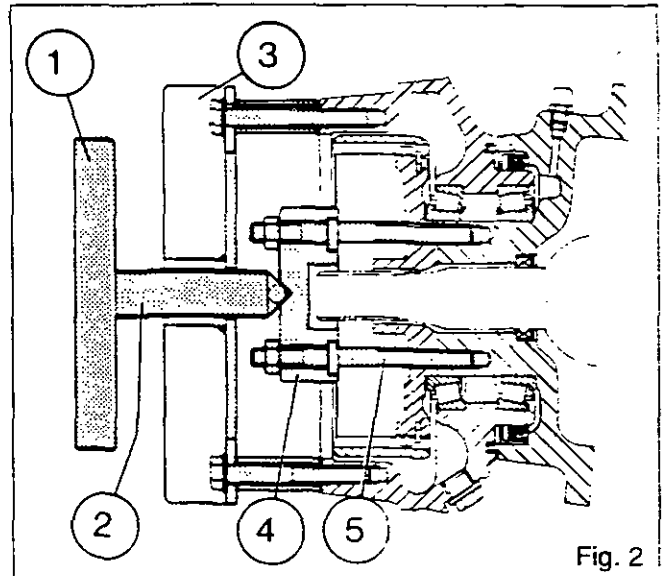

Fig. 2
30. Remove the circlip (29) and the sun gear (28). In view of the weight of the hub, place in a sling before removing.
31. Remove the screws (31).
32. Use a locally made puller (see section I) to extract the wheel hub (22) (Fig. 2).
33. Remove the ring gear (44) assembled on the ring gear carrier (42) with the circlip (24), the shims [26] and the bearing cone (25). The shrink-fitted dowel pins (27) should remain in the swivel housing (47).
34. If it proves necessary to replace the oil seal (45) and the bearing cones (18) and (25), remove the oil seal (45), extract the bearing cone (18) with a suitable extractor and disassemble the bearing cups (19) and (23).